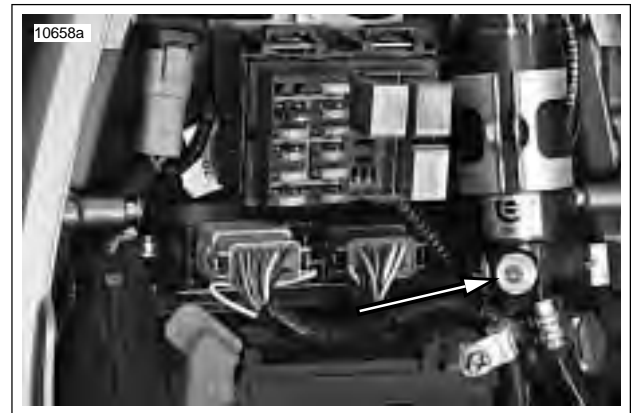

Figure 1-34. Rear Shock Compression Adjustment
2. See Figure 1-34. Using a screwdriver, turn the slotted dial clockwise until it stops. This is the maximum compression damping setting.